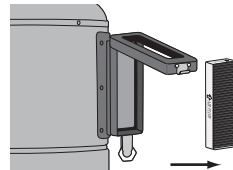

figure 9
2. Remove the used filter, and discard (**figure 9**).